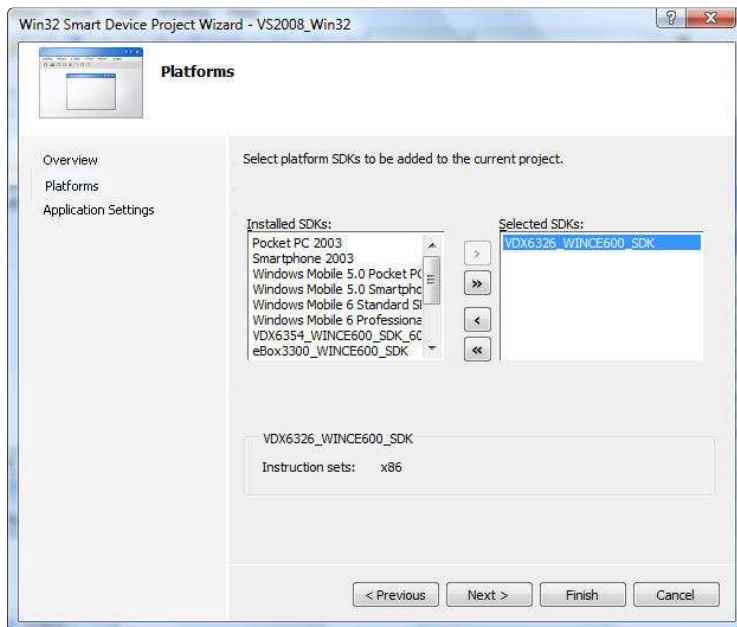

Fig. N04 - Platform and SDK selection
- Click on the right pointing arrow, located to the right of the Installed SDKs pane, to add the **VDX6326_WINCE600_SDK** to the selected SDKs pane, as shown in Figure N04